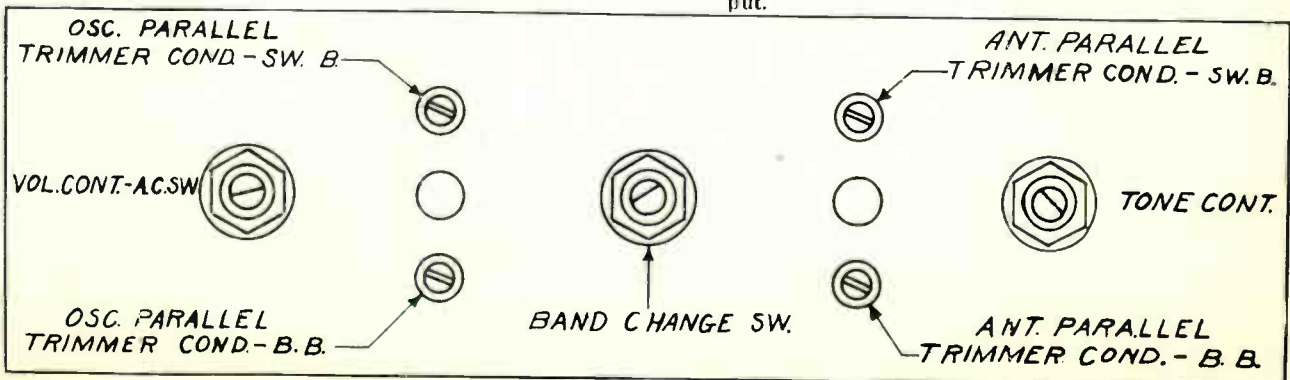

Fig. 3—Front View
- I. To Peak The Broadcast Band: See NOTE in IV (a) under peaking I.F. Stages, also Fig. 3 for location of parallel trimmer condensers and Fig. 2 for location of oscillator series trimmer (or padding) condenser.